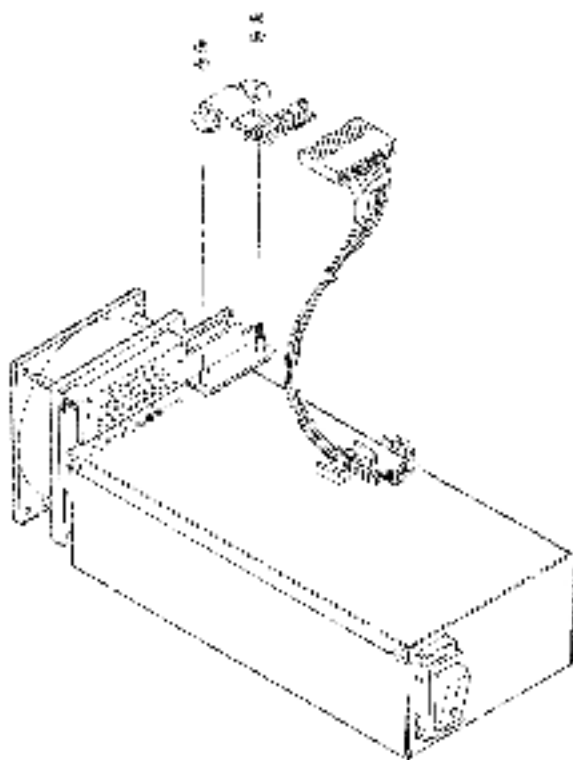

Figure 2-77 Power Supply/Load Resistor Assembly
4. On the power supply, remove the two top screws on the fan/heat resistor bracket (Fig. 2-77). Next slightly loosen the two bottom screws on the fan. Then pull the bracket up (with the heat resistor assembly on it) and separate it from the power supply.
3. Release and remove the two pins holding the load resistor to the bracket. Remove the load resistor (Figure 2-77).